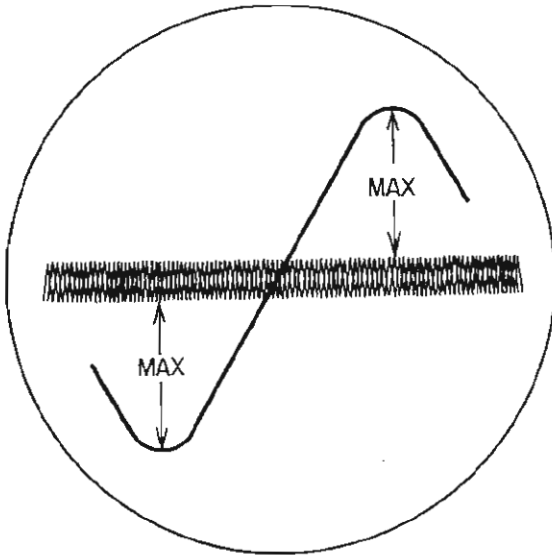

Fig. 8
- (2) Turn the core of the output transformer  $T_2$  on the front end so that the horizontal stripes visible in the center of the waveform in Fig. 8 and maximum amplitude is located in the center of the S-shaped curve. At this time, the horizontal stripe should be symmetrical at about the center line.